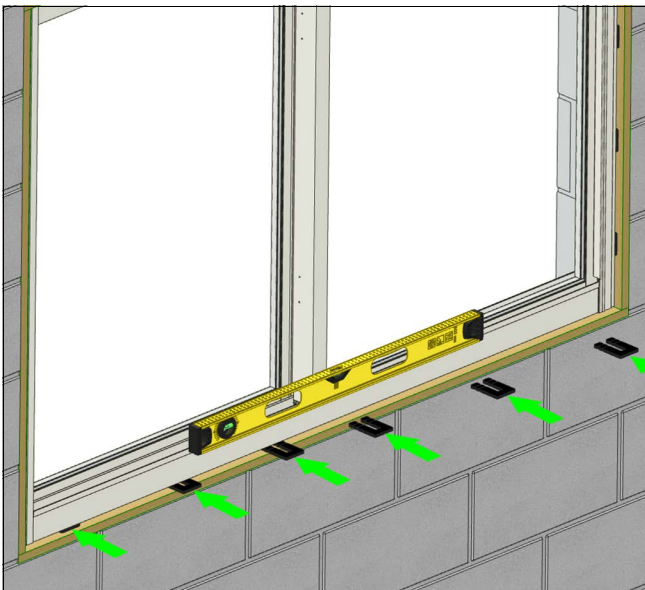

Figure 12
4. Center the window in the opening and ensure the unit is level at the sill. Then continue to add shims at each installation fastener anchor hole around the perimeter of the unit. See Figure 12.